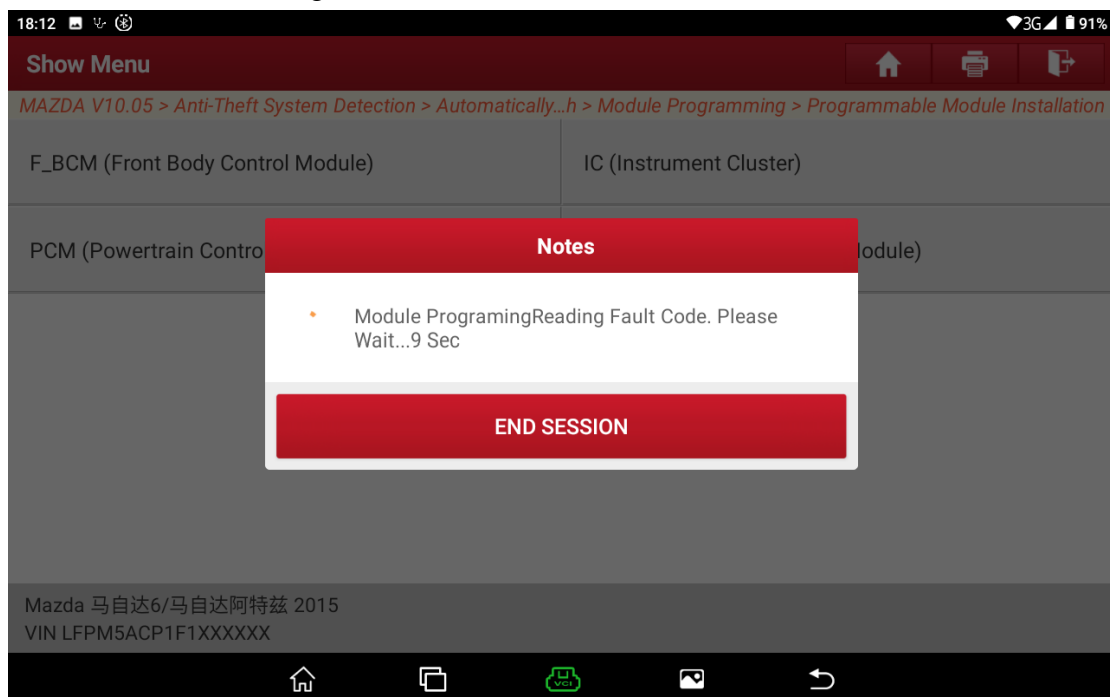

Figure B18
15. Wait for 10s. See Figure B18.